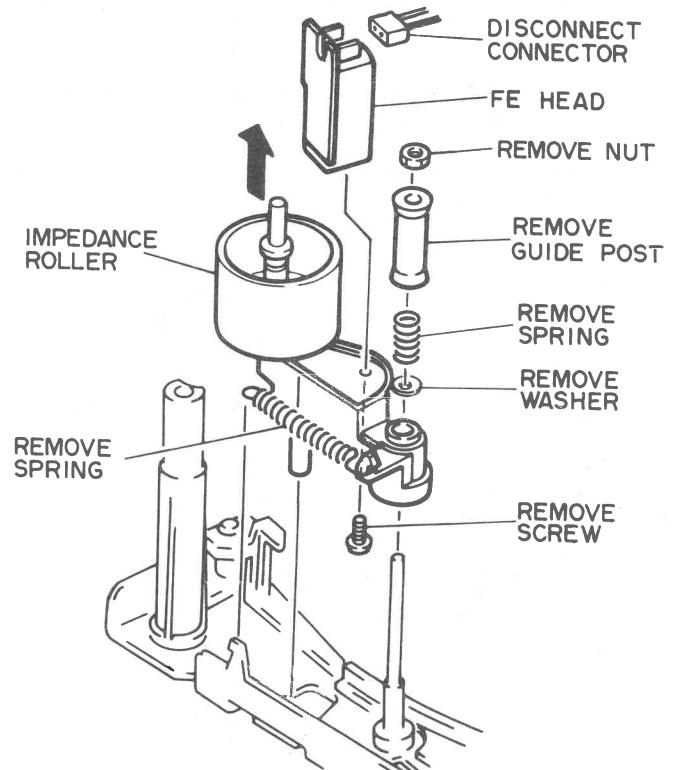

Fig. 22 Full Erase Head/Impedance Roller Removal
**Full Erase (FE) Head/Impedance Roller Removal (Fig. 22)**